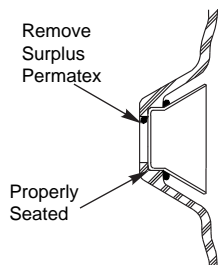

Figure 8
- D. Remove surplus silicone RTV from insert cavity (see Figure 8).